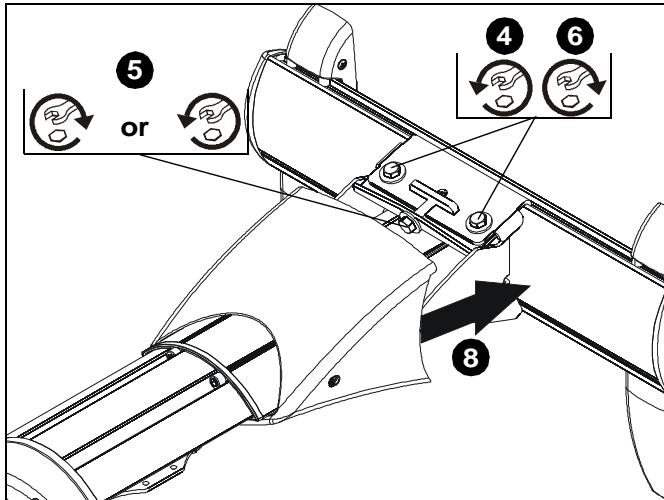

Figure 35
4. Loosen two bolts on either side of pitch adjustment screw. (See Figure 35)
5. Adjust pitch adjustment screw until mount is at desired pitch level. Turn clockwise to raise mounting level or turn counterclockwise to lower mounting level. (See Figure 35)
6. Tighten two bolts on either side of pitch adjustment screw. (See Figure 35)
7. Tighten two 1/4-20 x 5/8" screws (E) on underside of mounting bracket. (See Figure 35)
8. Slide outer cover of mount (A) back against mounting bracket. (See Figure 35)